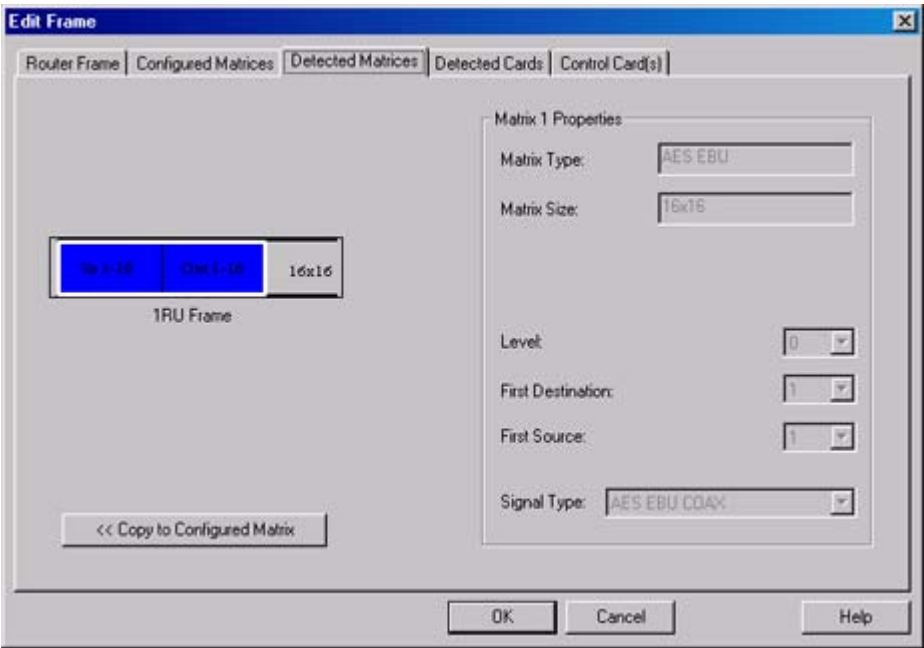

Figure 5. Detected Matrices Tab
4. Select the Detected Matrices tab. Matrix information should resemble the information shown in Figure 5.